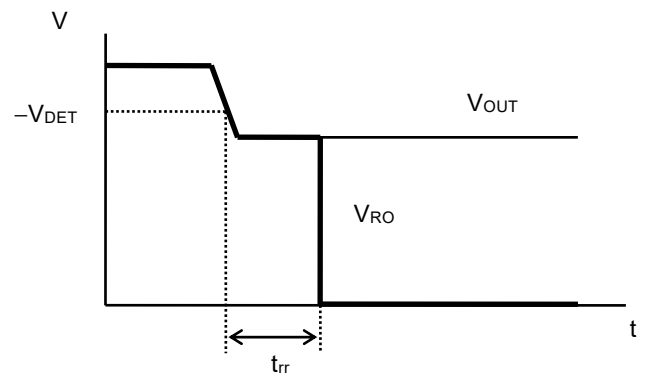

Figure 5 Reset Reaction Time
*4. The time from when V_{OUT} falls below $-V_{DET}$ to when the RO pin output inverts (Refer to **Figure 5**). The time period from when V_{OUT} changes to $V_{OUT(S)} \rightarrow -V_{DET}$ to when V_{RO} reaches $V_{OUT} / 2$.